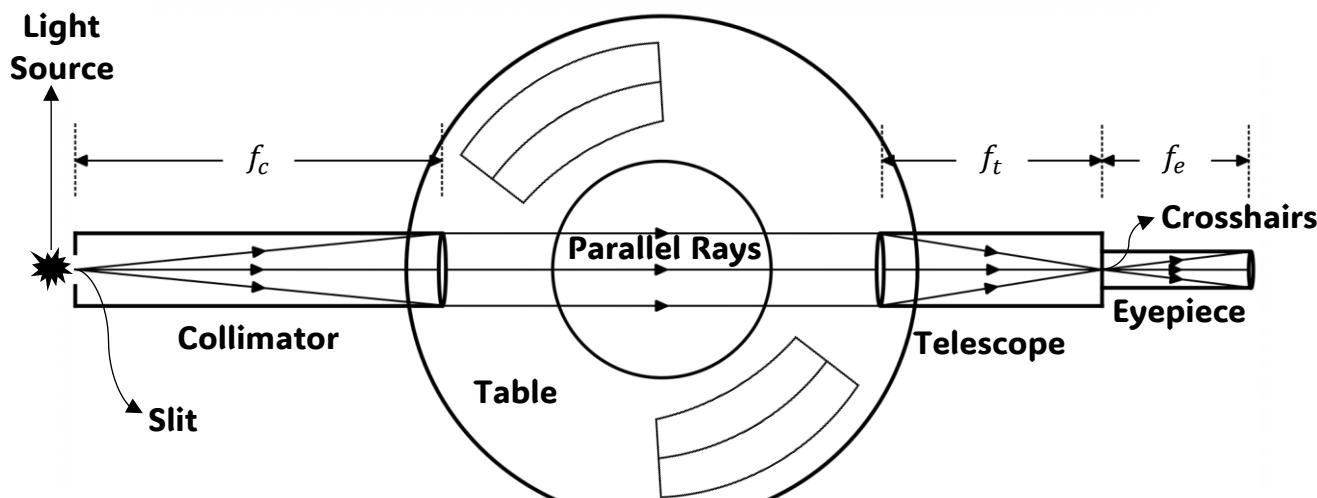

Fig. 5
- 3) Point the telescope towards an object as far away as possible and focus the telescope on a far-away object, which is taken to be at infinity. This ensures that parallel rays will focus on to a point as on the right-hand side of the prism table in *fig. 5*.
4) Now look directly into the collimator with the telescope and obtain as sharp an image as possible of the slit by adjusting the focus of the collimator. This ensures that light emerging from the source/slit becomes set of parallel rays as in the left side of the prism table in *fig. 5*.
6) *Fig. 5* shows the path of the light rays as they pass through a correctly adjusted spectrometer. The instrument scale must be carefully read at the desired setting and for work of the highest precision both verniers are used. In the present case adequate accuracy will be obtained by using only one of them.